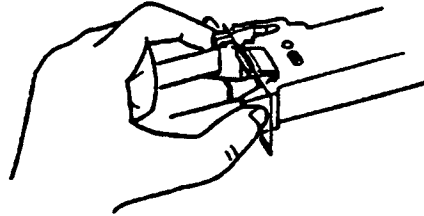

Figure 6.7
- (10) When replacing the ribbon cassette, pinch the cassette latchlevers, then pull the cassette out of the hole. (Figure. 6.7) Use the same procedure when installing new cassettes.